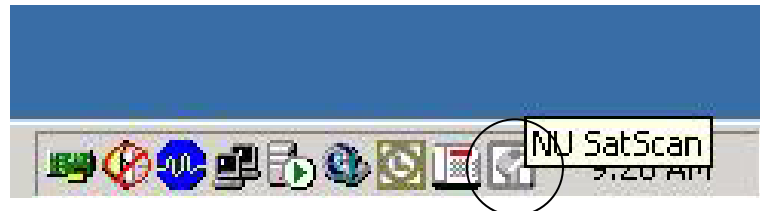

Figure 1: NU Fred Satscan program running
- To confirm the **NU Fred Satscan** program is running, look at the bottom right hand corner of the windows desktop screen and beside the digital clock you should see the **NU Fred Satscan** program sitting idle. If you point the mouse pointer over the top of the icon, without clicking, it will read **NU Fred Satscan**, refer to Figure 1
- Ensure the **Fred Satscan** program is running, refer to Figure 1 page 5